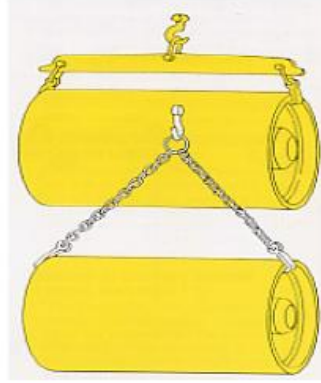

Figure 9: Method of Lifting the Ton Containers Using the Iron Column (1) or Using the Chain (2)
- 9) Using a hydraulic crane to transport and unload the ton containers (Figure 9).